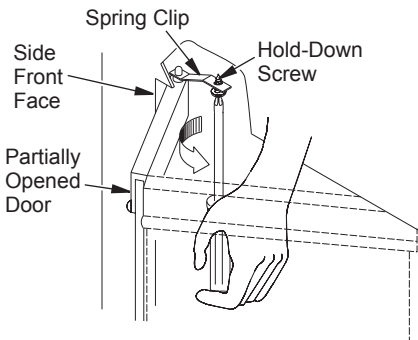

Figure 34 - Adjusting Glass Doors
7. To adjust doors, slide them partially open. Using a screwdriver, loosen the hold-down screws in spring clip (see Figure 34) and pivot plate.